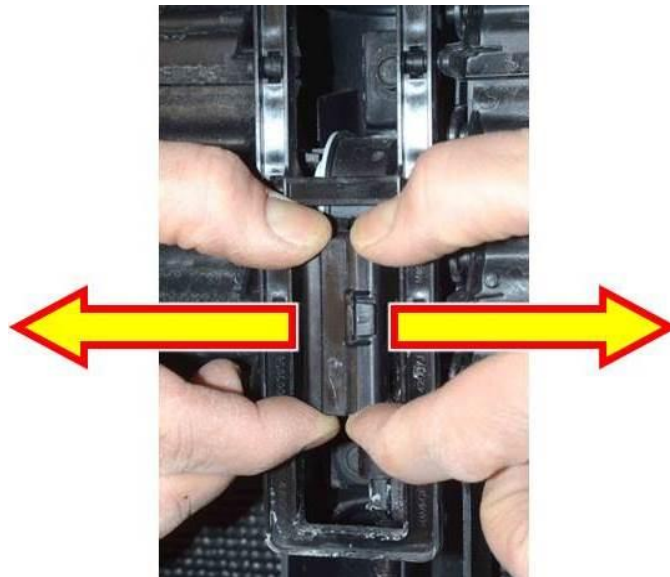

Fig. 4 Attempt To Separate Actuator Motor Case Housing Halves
6. Grasp both halves of the actuator housing and apply outward pressure while inspecting for any separation movement between the housing halves (Fig. 4).